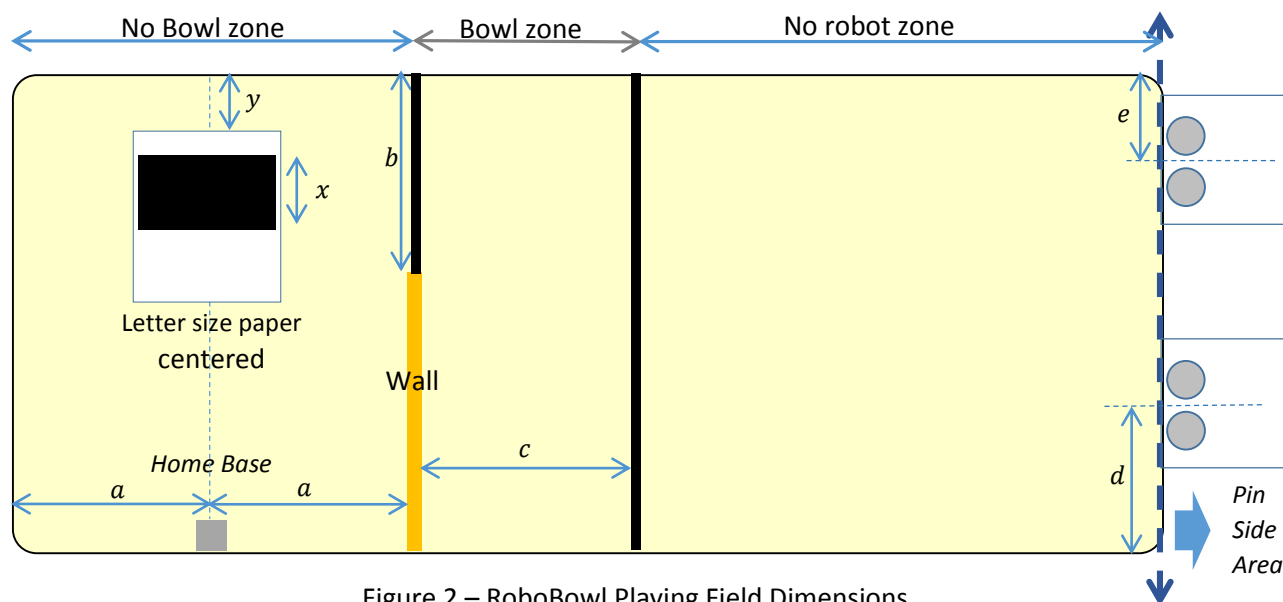

Figure 2 – RoboBowl Playing Field Dimensions
9. The robot is required to report the height x of the black rectangle printed on the letter size paper in millimeters **after** the game is over. See Figures 2 and 6.
The playing field is a 30”x72” (actual size is 75.6 x 182.3cm) plastic folding table that can be purchased at discount stores like Lowes, Kmart, or Sam’s Club. Recommended brand is “LifeTime”. The surface is light in color such as almond; however, the exact color, brightness, and edge shape are unknown until the competition day. The four corners of the table are rounded. The thickness of the table is about 4.5cm. The table is placed on a dark colored floor. Figure 2 is a drawing of the playing field features with dimensions shown in table 1. The 2” tall wall is made of a 1”x2” (1.9 cm x 3.7cm) pine wood bar attached to the table with VELCRO® or Dual Lock. The size of aluminum foil tape for the Home Base is approximately 5cmx5cm. Standard electrical tape (1.9cm wide) is used for the black lines. Four corners of the letter size paper will be taped.